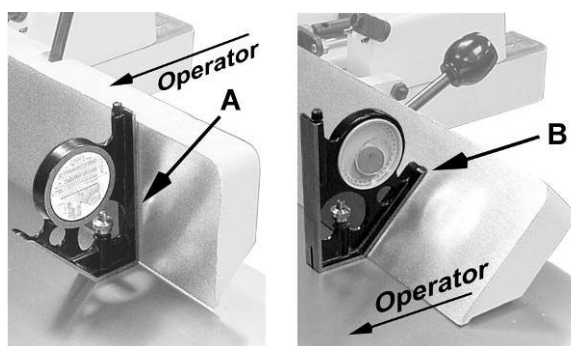

Figure 15
5. Place an angle measuring device on the table and against the fence to confirm a 90° setting (A, Fig. 15).
6. If the fence is not square to the table, release the *lock handle* (B), loosen the *lock nut* (D) that secures the *stop bolt* (F), and turn the stop bolt until the fence is square to the table.
7. Tighten the *lock nut* (D) to secure the *stop bolt* (F) which retains the setting.
8. Tighten the *lock handle* (B).
1. Loosen the lock handle (B).
2. Move the stop block (C) out of the way and position the fence at the 135° angle; fence tilt lever (E) is positioned away from the operator as shown. Make sure the fence sits against the *stop bolt* (H).
3. Tighten the lock handle (B).
4. Place an angle measuring device on the table and against the fence to confirm a 135° setting (B, Fig. 15).
5. To adjust, loosen the *lock nut* (J) securing the *stop bolt* (H) and turn the stop bolt until a 135° angle of the fence is obtained.
6. Tighten the *lock nut* (J).